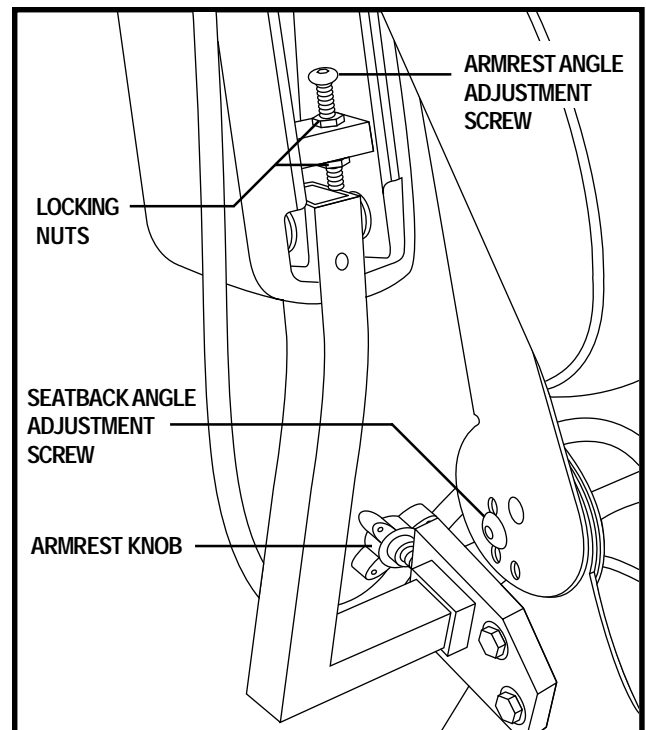

Figure 23. Seatback Angle Adjustment
1. Remove the adjustment screw from each seat hinge. See figure 23.
1. Loosen the two armrest knobs on the armrest receiver bracket. See figure 23.
2. Loosen the locking nuts. See figure 23.